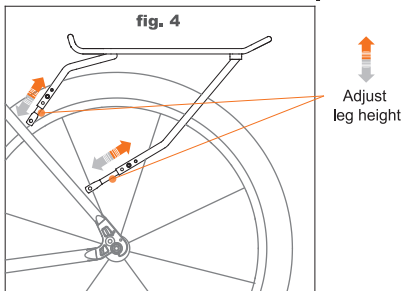

fig. 4
5. Determine leg height. Place carrier over rear wheel and hold legs on seat stays. If cargo tray is not more or less horizontal, remove bolts on front legs, rear legs or both to adjust carrier height and angle (see fig. 4). Carrier must have at least 2 cm clearance over wheel.